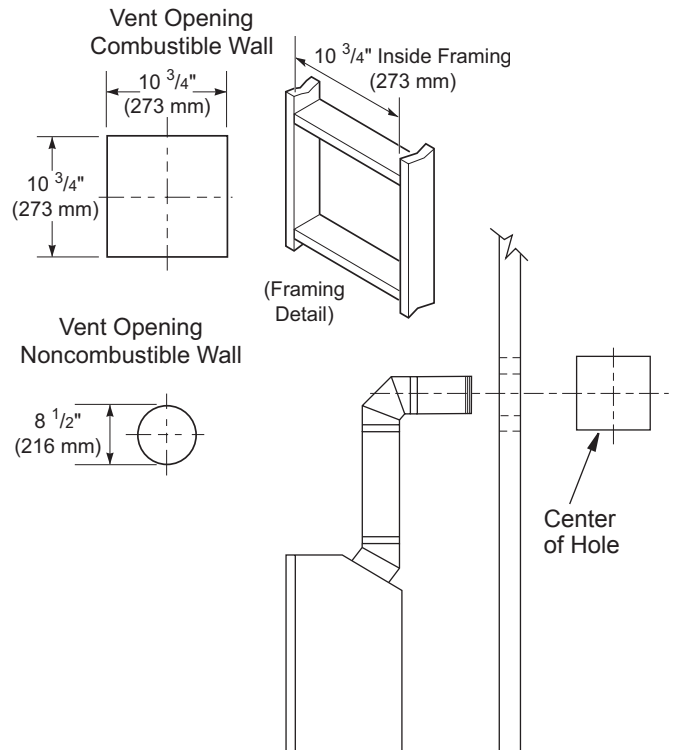
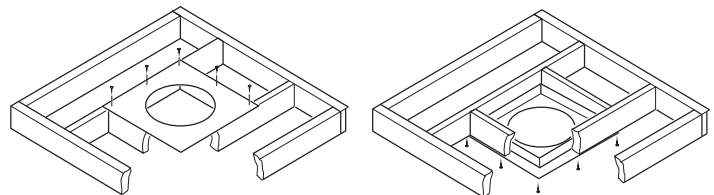

Figure 9 - Vent Opening Requirements
Figure 20 - Installing Firestop
5. Carefully determine the location where the vent pipe assembly will penetrate the outside wall. The center of the hole should line up with the center-line of the horizontal vent pipe. Mark the wall for a 10 3/4" x 10 3/4" square hole. Cut and frame the square hole in the exterior wall where the vent will be terminated. If the wall being penetrated is constructed of noncombustible material, such as masonry block or concrete, a 8 1/2" hole with zero clearance is acceptable (see Figure 9).
- Cut a 10 3/4" square hole in the ceiling using the locating hole as a center point. The opening should be framed to 10 3/4" x 10 3/4" (273 mm x 273 mm) inside dimensions, as shown in Figure 9 on page 8 using framing lumber the same size as the ceiling joists. If the area above the ceiling is an insulated ceiling or a room, nail firestop from the top side. This prevents loose insulation from falling into the required clearance space. Otherwise, install firestop below the framed hole. The firestop should be installed with no less than three nails per side (see Figure 20).
- Cut a hole in the roof using the locating hole as a center point. (Cover any exposed open vent pipes before cutting hole in roof.) The 10 3/4" x 10 3/4" hole must be measured on the horizontal; actual length may be larger depending on the pitch of the roof. There must be a 1" clearance from the vent pipe to combustible materials. Frame the opening as shown in Figure 9, page 8.